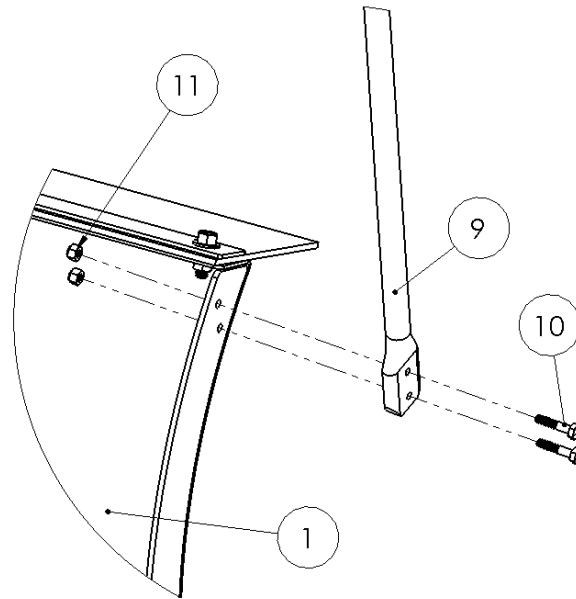

Figure 3
3) Install the Flag Markers to the sides of the plow blade as shown in Figure 3